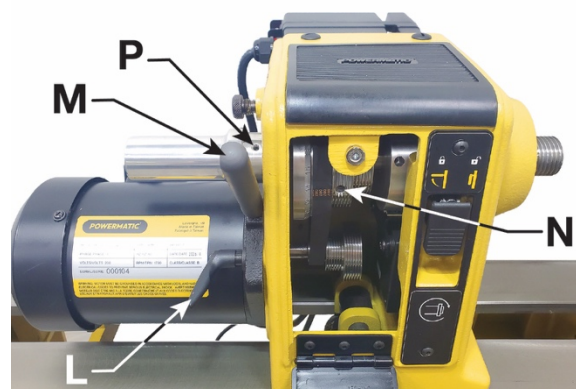

Figure 8-9: Sheave/Belt Alignment
3. Loosen pivot lock handle (L, Figure 8-9) and lift tension handle (M, Figure 8-9) to raise motor. Tighten pivot lock handle (L, Figure 8-9) to hold motor in raised position.
5. Loosen pivot lock handle (L, Figure 8-9) and lower motor to tension belt. Be sure that V-grooves of belt seat properly in corresponding grooves of sheave. Do not overtension; a very light pressure on the tension handle (M) is adequate to prevent belt slippage.
6. Tighten pivot lock handle (L).
1. The motor and spindle sheaves are aligned by the manufacturer, but if any service is performed that affects their alignment it is very important that they be realigned. To realign them, loosen two set screws on spindle sheave (one is shown at N, Figure 8-9) with a hex key, and nudge spindle sheave into proper position. Retighten both set screws.
2. Loosen lock handle (L, Figure 8-9) and lift handle (M) to raise motor.
3. Tighten lock handle (L) to hold motor in raised position. Slip belt off lower pulley.
4. Loosen two set screws on handwheel (P, Figure 8-9) with a 3mm hex wrench and unscrew handwheel off spindle (NOTE: Left-hand threads; rotate clockwise to loosen).
6. If replacing sheave, loosen two set screws (N, Figure 8-9), and slide sheave off spindle. Install new sheave, *loosely* securing the two set screws at first. Make sure the sheave is oriented properly.
9. Reinstall handwheel and tighten set screws (P, Figure 8-9).
10. Align new sheave (see *sect. 8.9*) then tighten two set screws (N, Figure 8-9) securely on sheave.
11. Loosen lock handle (L) and allow motor to lower. Do not over-tension; a very light pressure on tension handle (M) is adequate to prevent belt slippage.
12. Tighten lock handle (L).